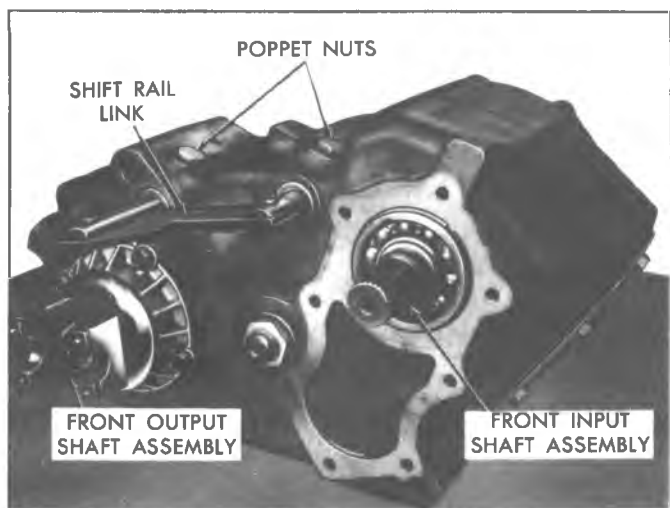

Fig. 7E-2R—Front View of Transfer Case
4. Tap on output shaft with a soft hammer (Fig. 7E-3R) and remove shaft, gear assembly, and rear bearing retainer from case.
5. Using large snap ring picks, such as J-23432-1, remove the gear retaining ring from the shaft (Fig. 7E-5R) and discard.